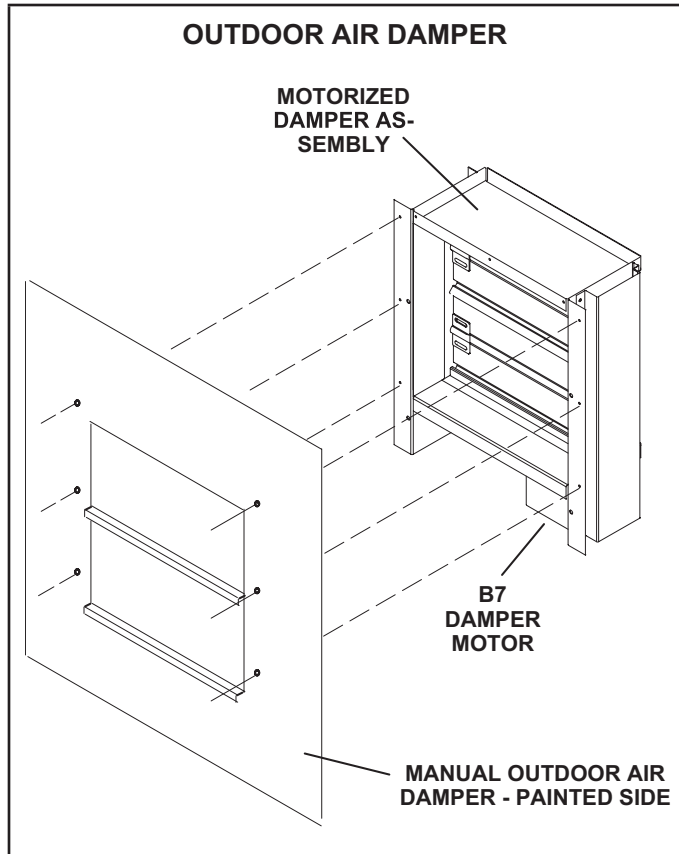

FIGURE 22
See Optional Accessories at the front of this manual (Table of Contents) for sizes per LCX units. Outdoor air dampers may be manually or motor (M) operated to allow up to 25 percent outside air into the system at all times. See FIGURE 22. The washable filters supplied with the outdoor air dampers can be cleaned with water and a mild detergent. It should be sprayed with Filter Handicoater when dry prior to reinstallation. Filter Handicoater is R.P. Products coating no. 418 and is available as Part No. P-8-5069.